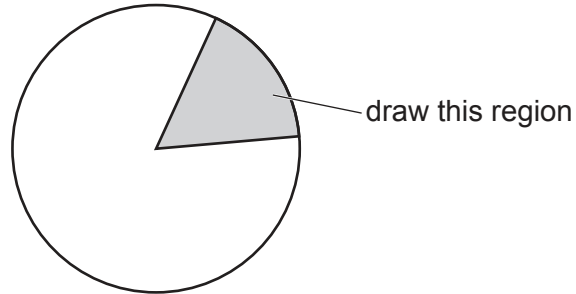

Fig. 2.1
- (a) (i) Draw a large plan diagram of the region of the stem on **J1** indicated by the shaded area in Fig. 2.1. Use a sharp pencil.